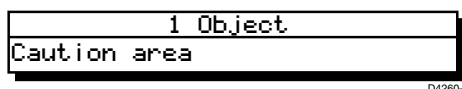

Figure 3-2: Typical Object Data Box
1. Move the cursor over the symbol for which you require the information. An Object data box such as the following is displayed at the lower left corner of the screen as shown in *Figure 3-2*: